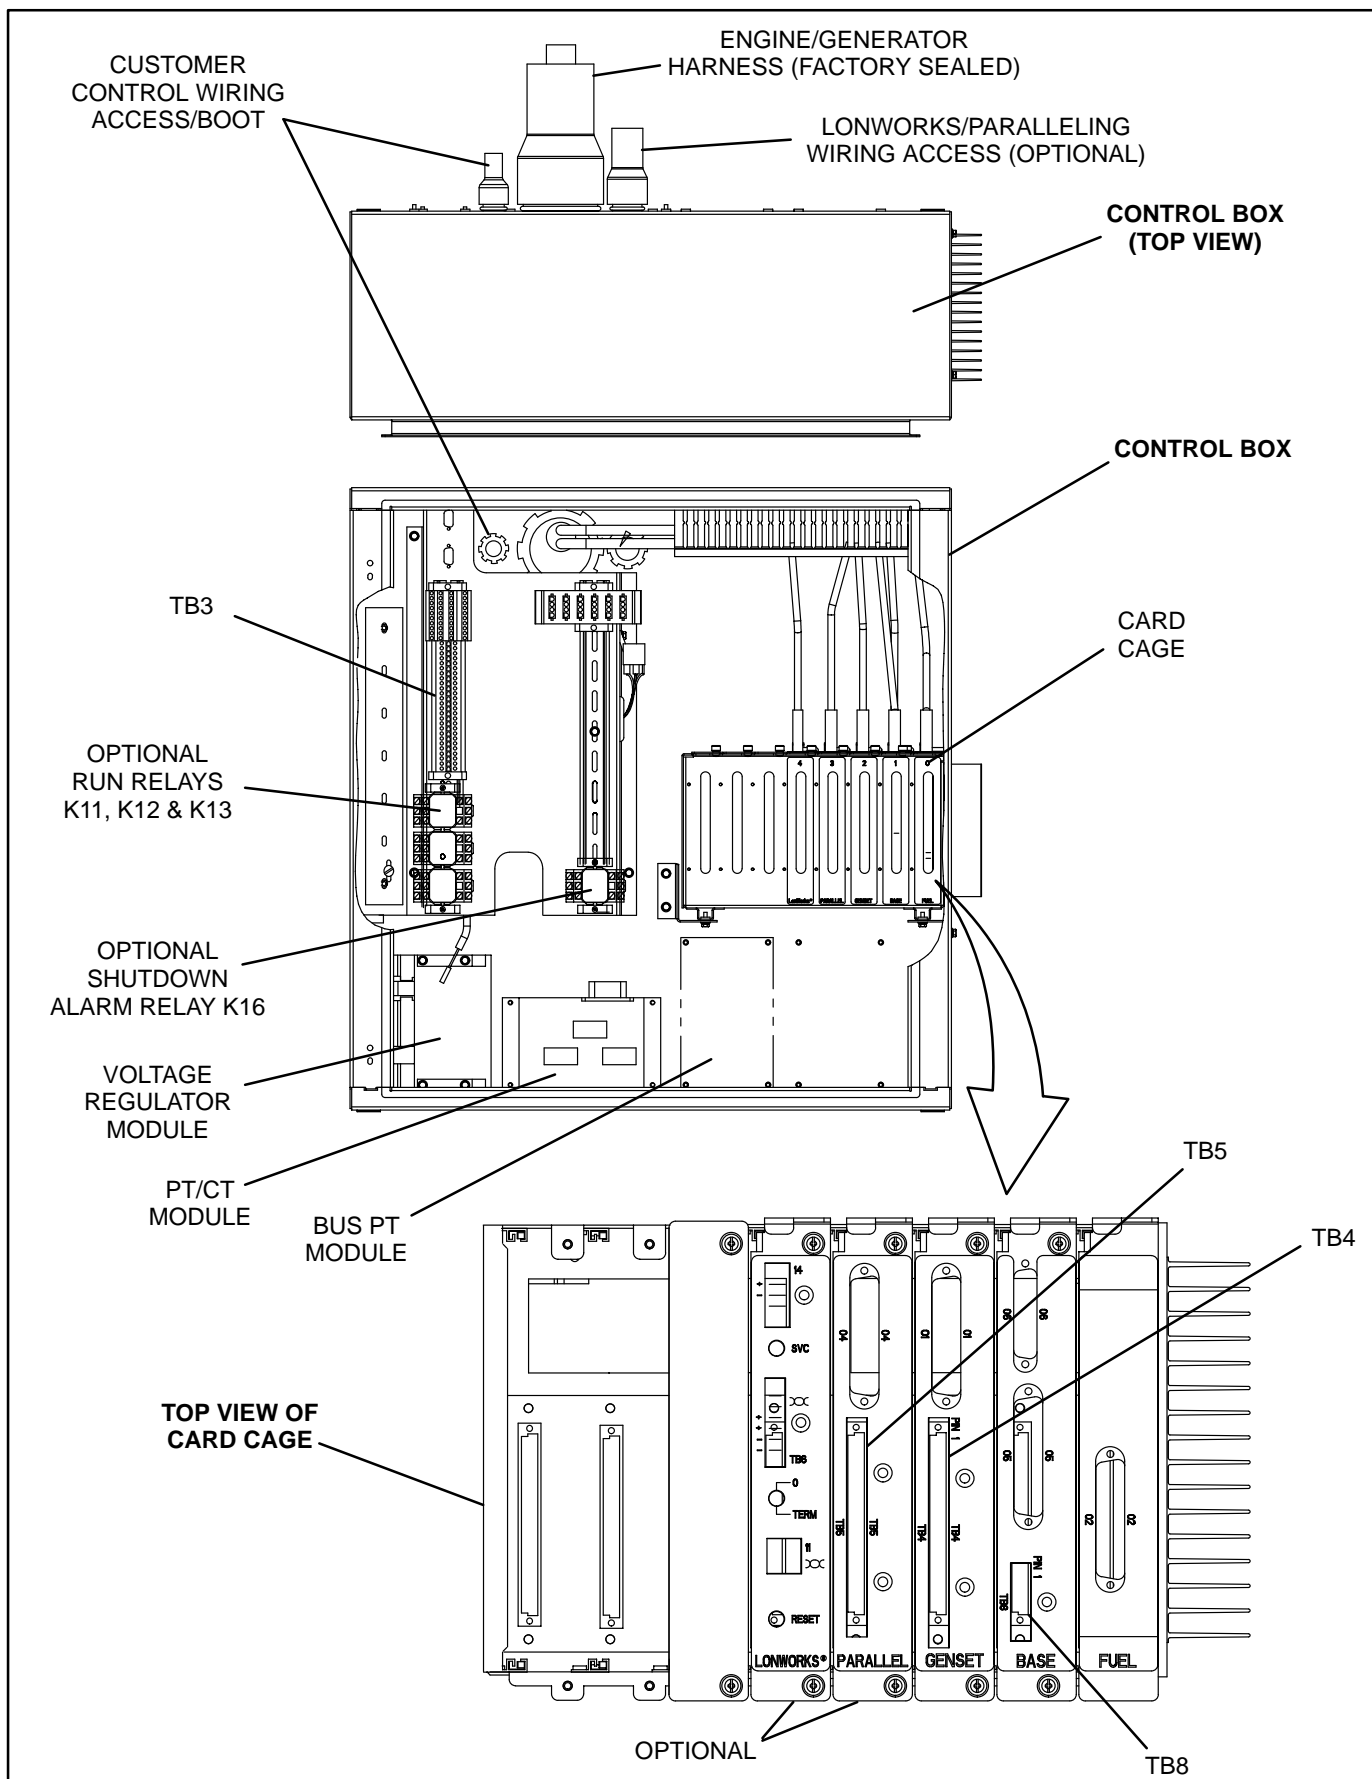

FIGURE 3-11. CONTROL BOX ASSEMBLY
A sealable pass-through is provided on the back of the control box for customer monitor/control wiring (Figure 3-11).
(see Figure 3-11). Optional equipment such as a remote annunciator panel, sensing devices used to monitor genset operation, remote start/stop switches, control box heater, and etc. are also attached to these terminal blocks. Driver signals for customer supplied relays are also provided for several alarm and shut down conditions.
The optional run relays are rail mounted inside the control box (Figure 3-11). The rail mount allows you to easily remove and replace the snap-on relays. The generator set can be equipped with one, two or three run relays.
The optional alarm relay is rail mounted inside the control box (Figure 3-11). The rail mount allows you to easily remove and replace the snap-on relay.
2. Open the door of the control box assembly and remove plug 10 from connector 10 of the voltage regulator output module (A37). See Figure 3-11.